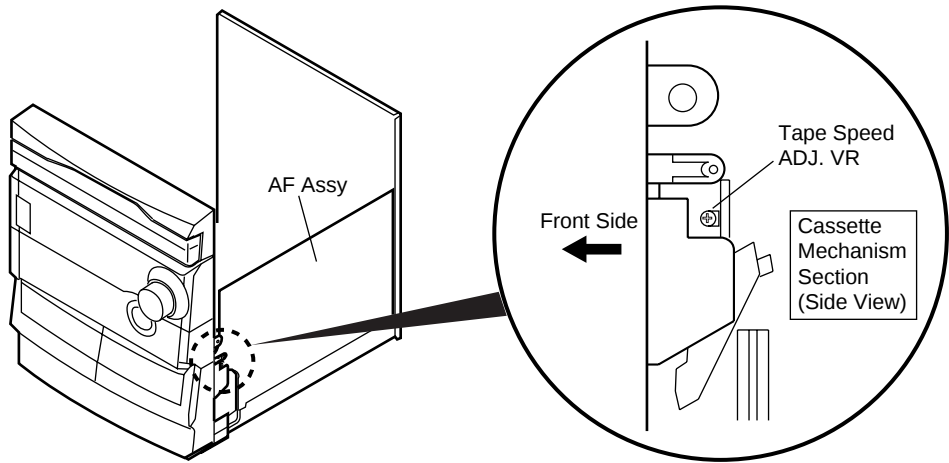
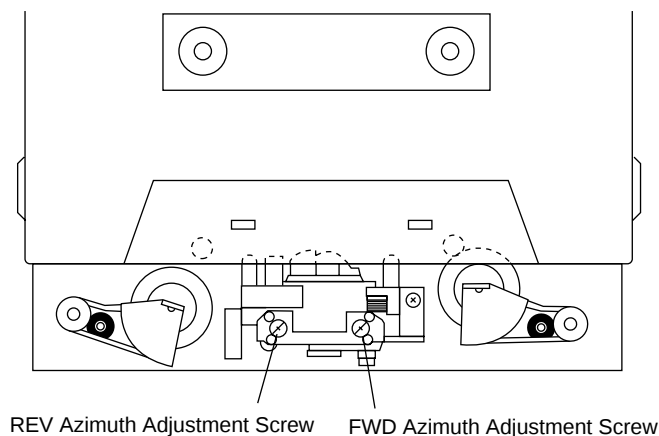

Fig. 10 Tape Speed ADJ. Point
Fig. 12 Head Azimuth Adjustment Screw
• Adjustment points and test points are shown in Fig. 10, Fig. 12 and Fig. 13.